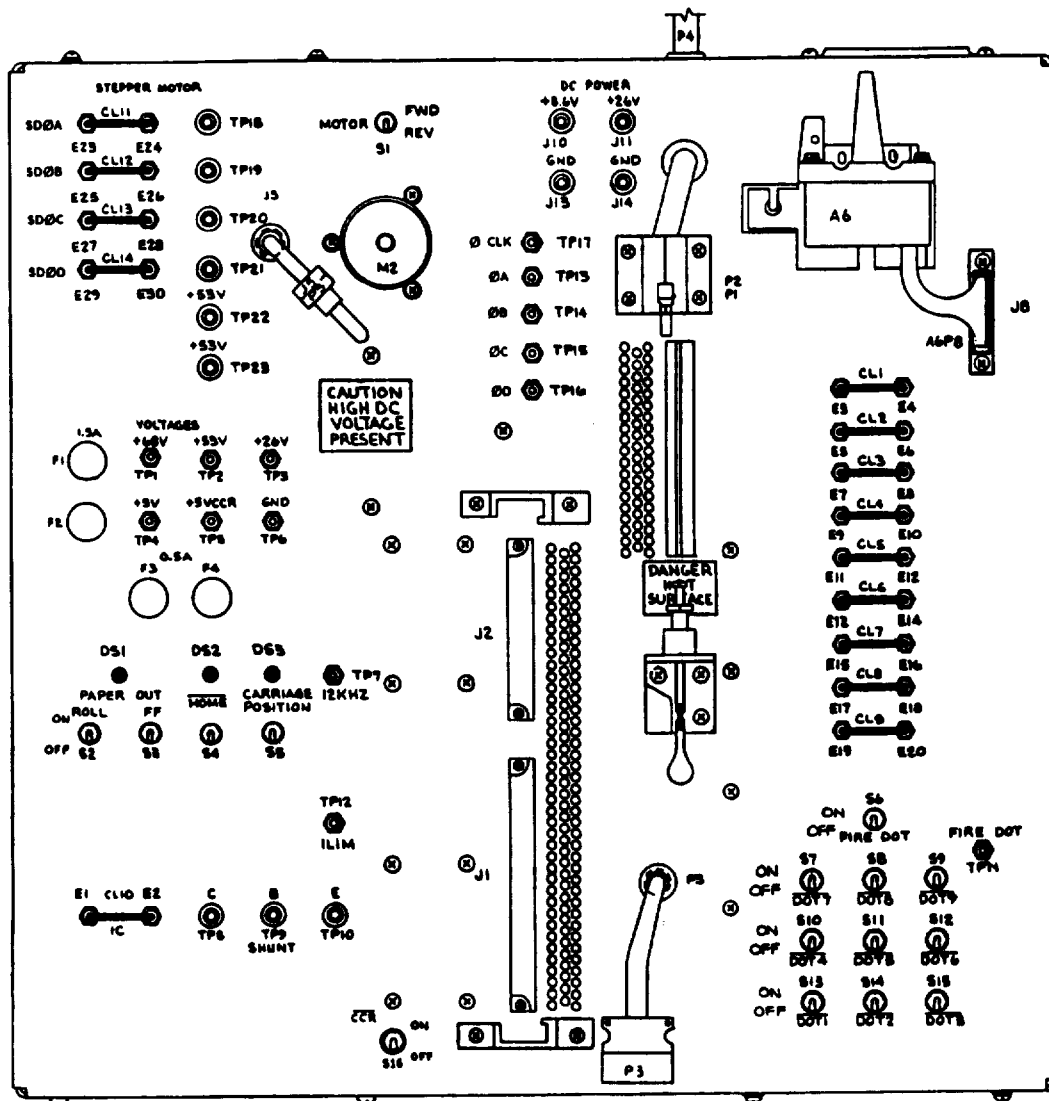

Figure 6-12. CARRIAGE MOTOR CURRENT CONTROL/DRIVE BOARD/
- c. **TEST SETUP PROCEDURES FOR TESTING CARRIAGE MOTOR CURRENT CONTROL CCA ON CARRIAGE MOTOR CURRENT CONTROL/DRIVE BOARD/PRINT HEAD TEST FIXTURE.** (See figure 6-12. )
(See figure 6-12. )